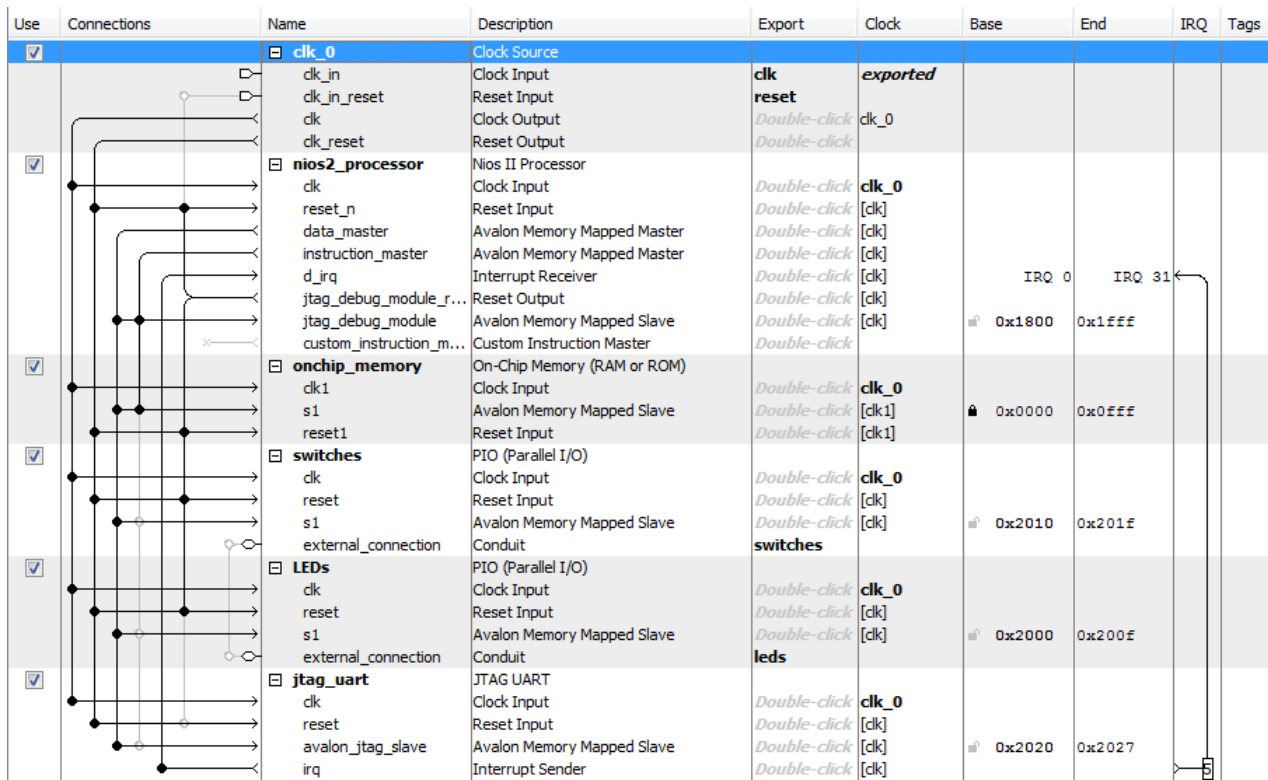

Figure 19. The complete system.
14. So far, we have specified all connections inside our *nios\_system* circuit. It is also necessary to specify connections to external components, which are switches and LEDs in our case. To accomplish this, double click on Double-click to export (in the Export column of the System Contents tab) for `external_connection` of the switches PIO, and type the name *switches*. Similarly, establish the external connection for the lights, called *leds*. This completes the specification of our *nios\_system*, which is depicted in Figure 19.